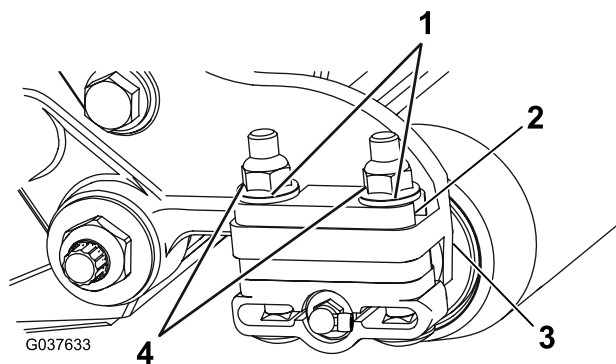

Figure 4
9. Remove the 2 flange locknuts and washers securing each roller bracket to the side plates (Figure 4).